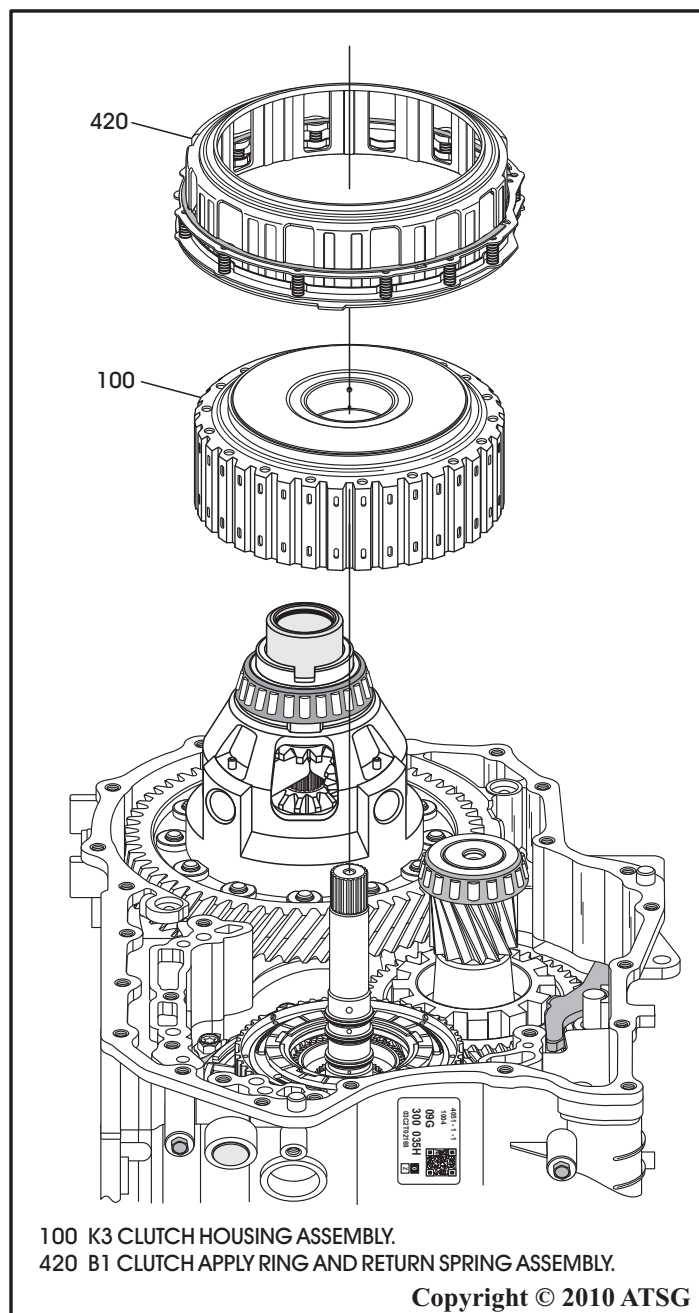

Figure 181
39. Install K3 clutch housing assembly, as shown in Figure 181, by rotating back and forth until it is fully seated.
40. Install the B1 clutch apply ring and return spring assembly, as shown in Figure 181.